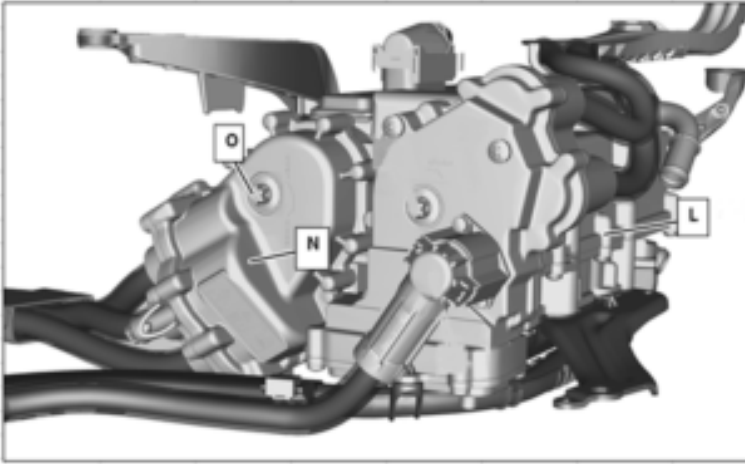

Figure 4 (example illustration on model 213 with OM654)
10. Remove screw (**O, Figure 4**) and remove high-voltage plug (**N, Figure 4**).
i The screw (**O, Figure 4**) remains in the high-voltage plug (**N, Figure 4**).